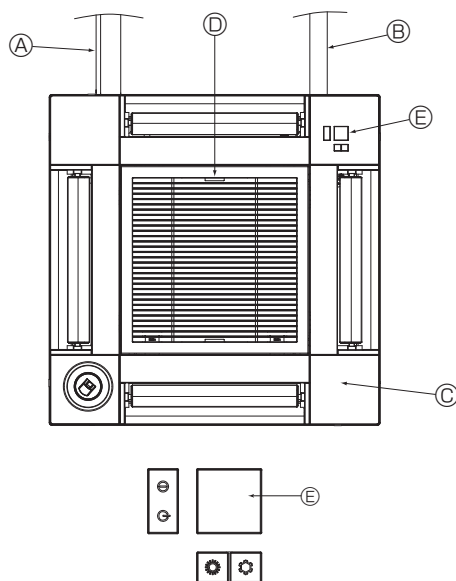

Fig. 5-18
5.5. Installing the intake grille (Fig. 5-18)